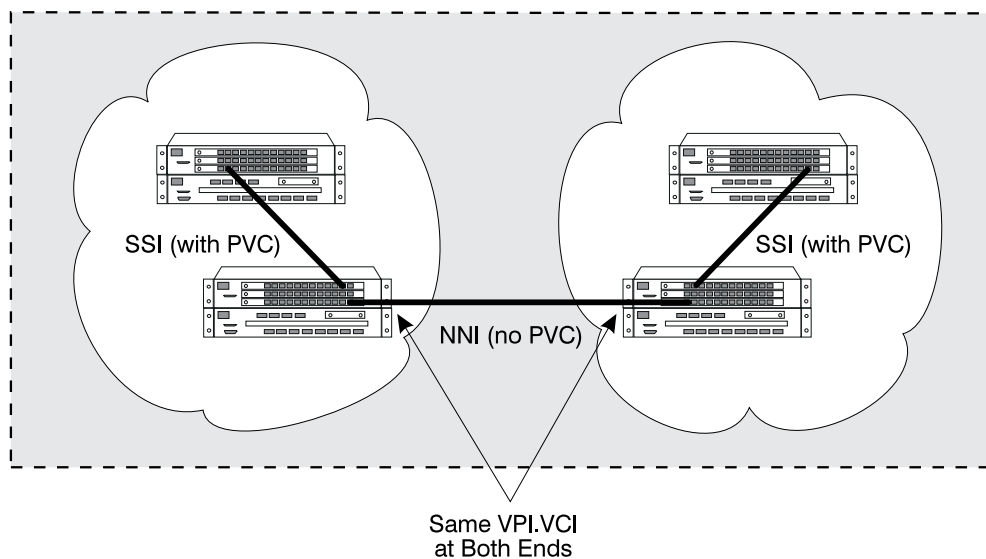

Figure 21. PVC Workaround for Cross-NNI Links
- Join both PVCs by fibre or cable, as shown in Figure 21